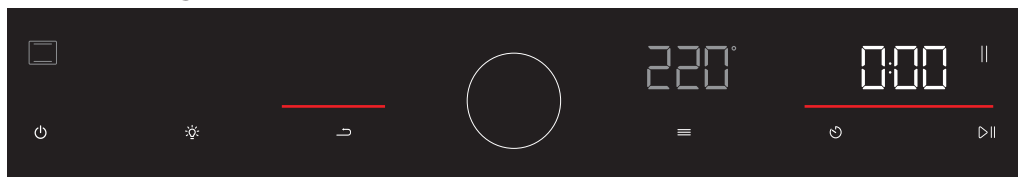
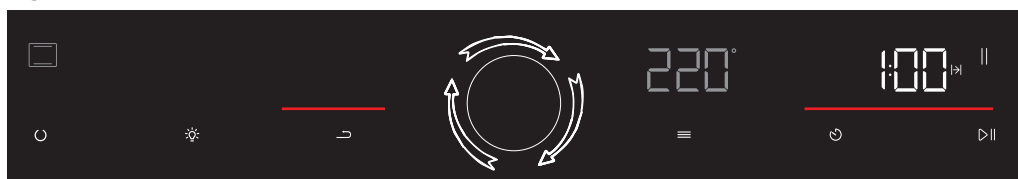
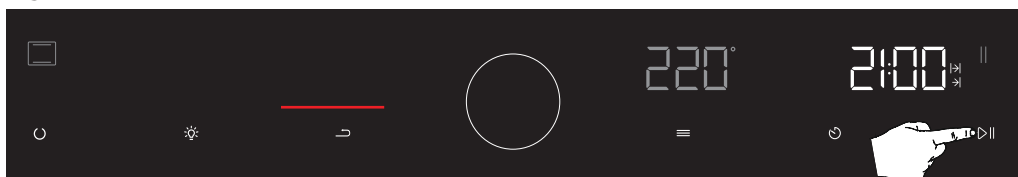

Figure 18
Figure 19
Figure 20
4. After pressing the approval () button, the active setting indicator switches to the time indicator. (see figure 18) The desired temperature value is set within the specified limits by pressing the or keys. (see figure 19) Press the confirm button () once to approve the cooking time. (see figure 20)